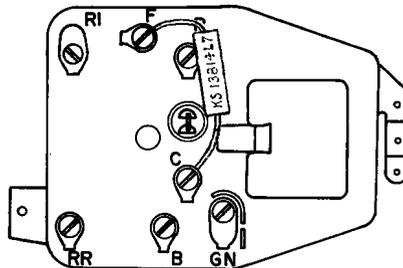

FIGURE 14. 701 Telephone Set, KS-13814, List 7
- 7.05 The KS-13814, List 7 capacitor is installed in the 701 type telephone sets as shown in Figure 14. It is connected between the F and C terminals of the 495 network. Cover the exposed portions of the capacitor leads with tubular insulation.